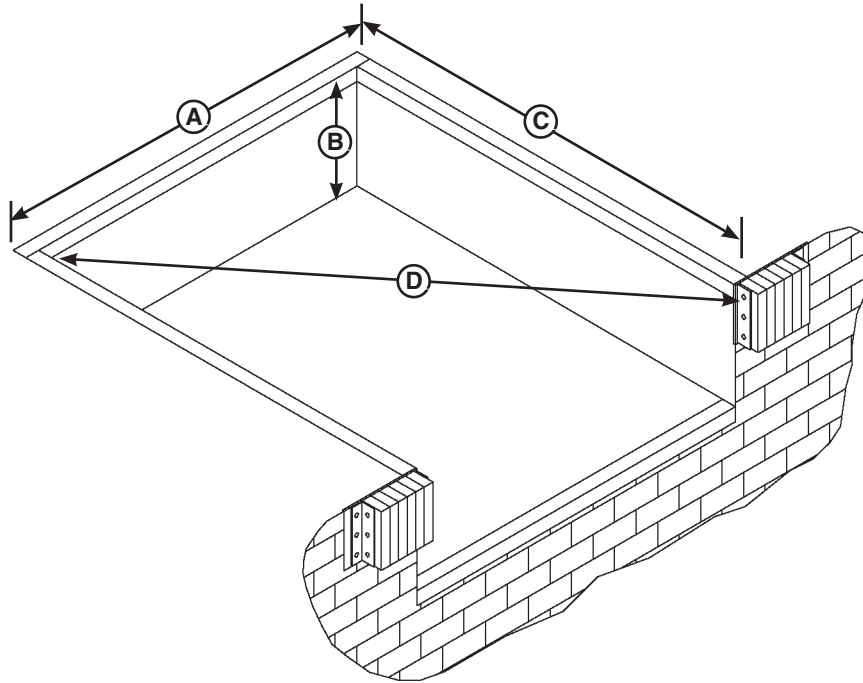

Figure 3
2. Check the entire dock leveler pit for proper construction according to approved/certified pit drawings. Make sure pit is square by making the following measurements (Figure 3):
- Measure pit width distance (A) at both front and rear of pit.
- Measure dock floor-to-pit floor distance (B) at all four corners.
- Measure pit length distance (C) at both sides.
- Measure corner-to-corner (criss-cross) distance (D) at both sides. Take measurements at dock floor level and at pit floor level.